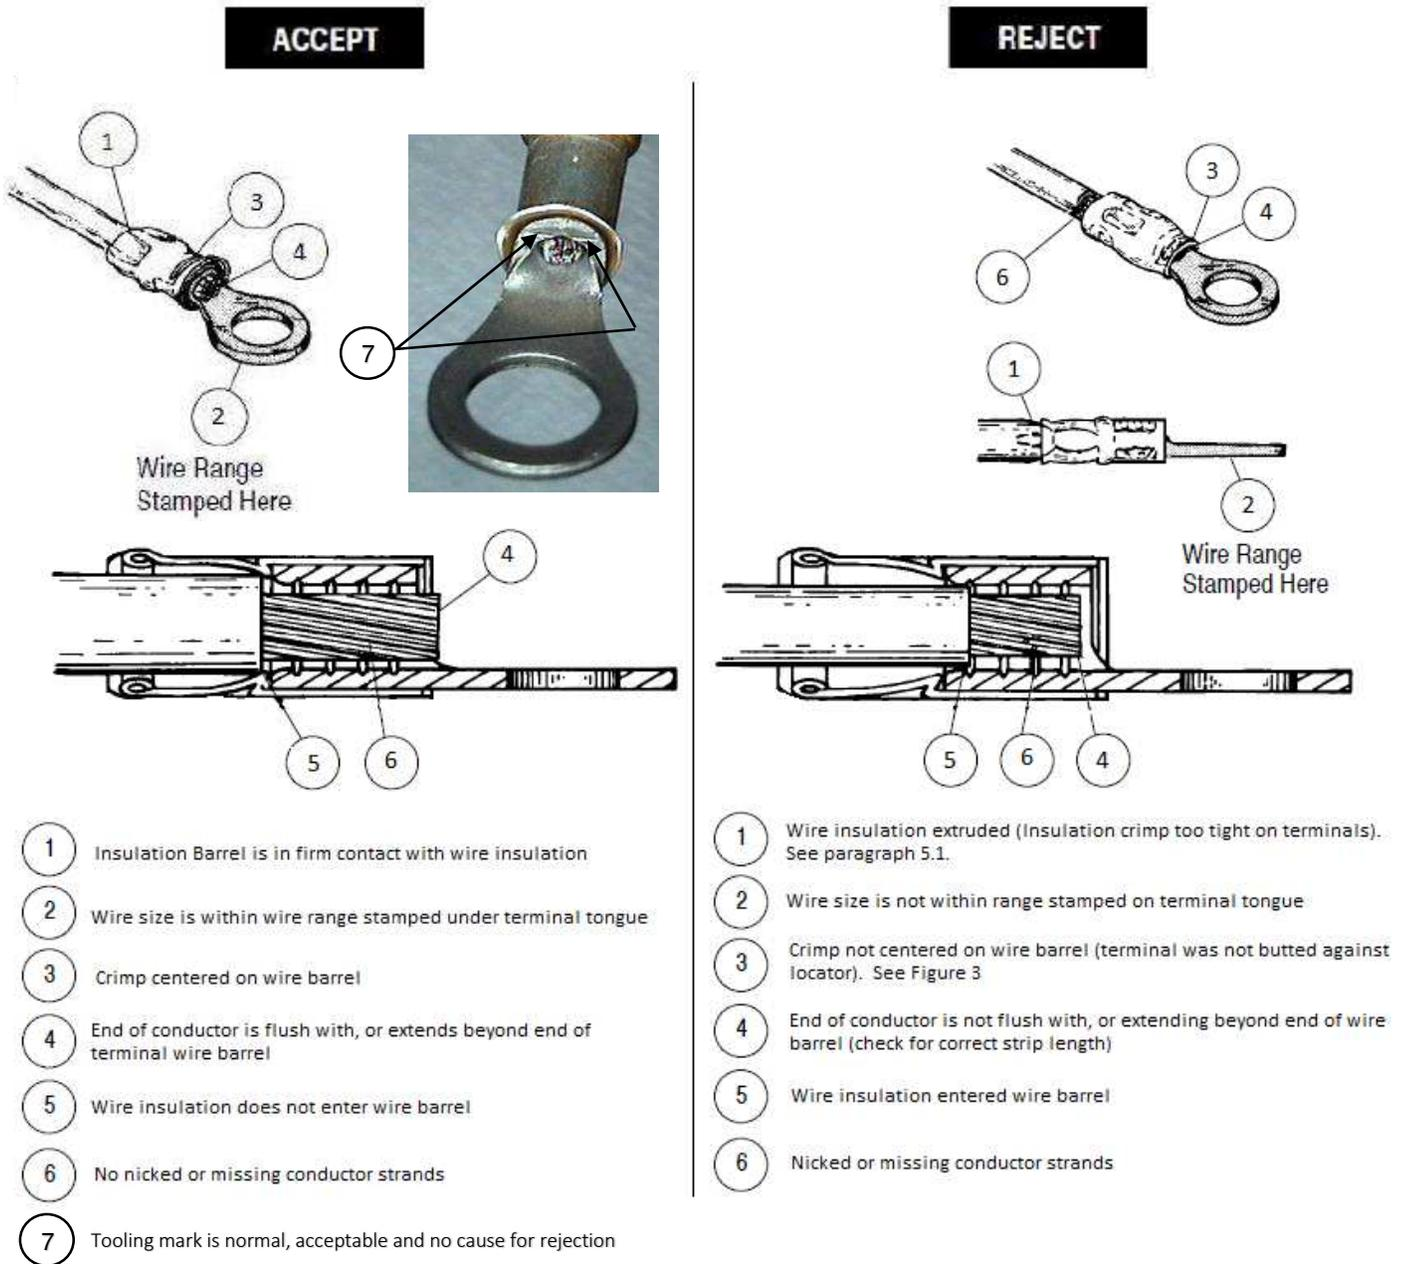

Figure 4
8. Refer to Section 4 and Figure 4 for terminal crimp inspection procedure.
Inspect crimped terminals by checking the features described in Figure 4. Terminals, not meeting the described conditions should NOT be used.
- ◆ Added Note 7 and applicable image to Figure 4.